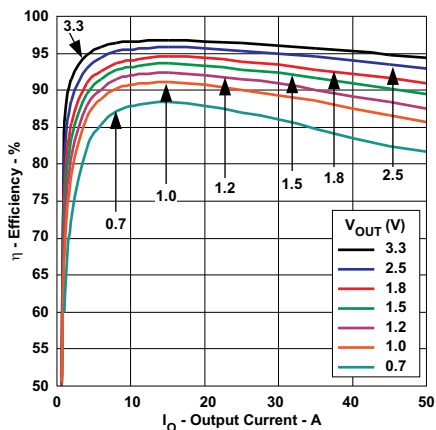
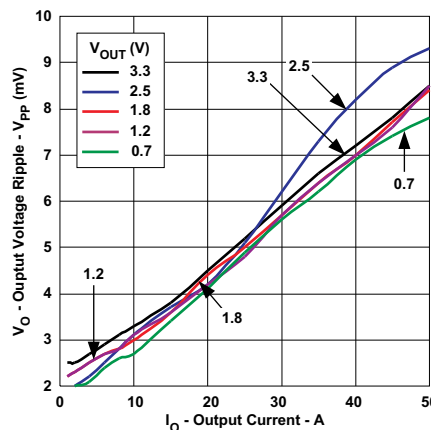
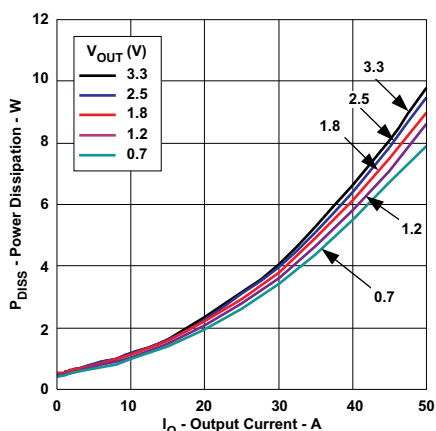

Figure 6. Efficiency versus Output Current
Figure 7. Output Ripple versus Output Current
Figure 8. Power Dissipation versus Output Current
(13) The electrical characteristic data has been developed from actual products tested at 25°C. This data is considered typical for the converter. Applies to Figure 6, Figure 7, and Figure 8.